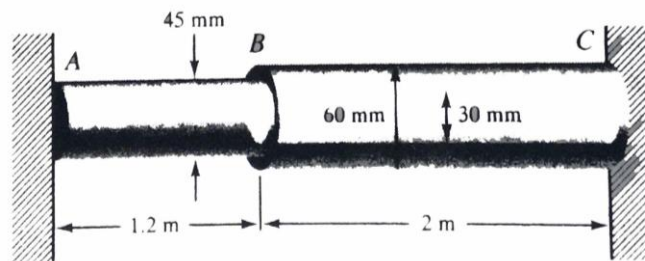

Figure: 5
10. A stepped shaft has the appearance as shown in Figure 5. The region AB is al2014-T6 alloy. Having $G=28$ GPa, and the region BC is steel, having $G=84$ GPa. The aluminium portion is of solid circular cross section 45 mm in diameter, and the steel region is circular of 60 mm outside diameter and 30 mm inside diameter. Determine the peak shearing stress in each material as well as the angle of twist at B where a torsional load of 4000 Nm is applied. Ends A & C are rigidly clamped. [10]